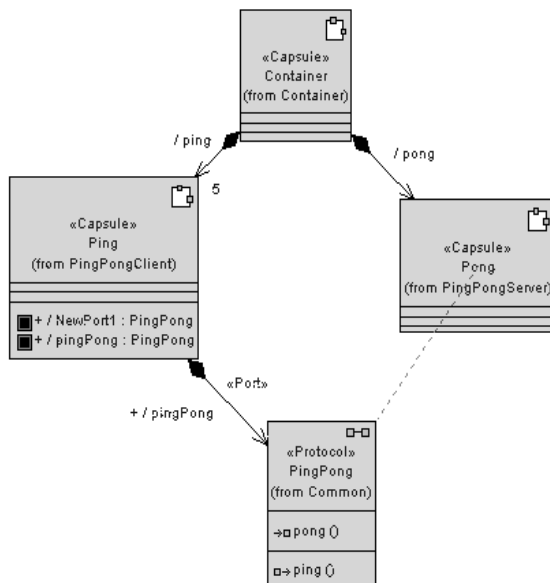

Figure 16 *Creating ports from a class diagram*
2. Create an aggregation association between the Ping capsule and the PingPong protocol as shown in Figure 16. Name the association "pingPong."